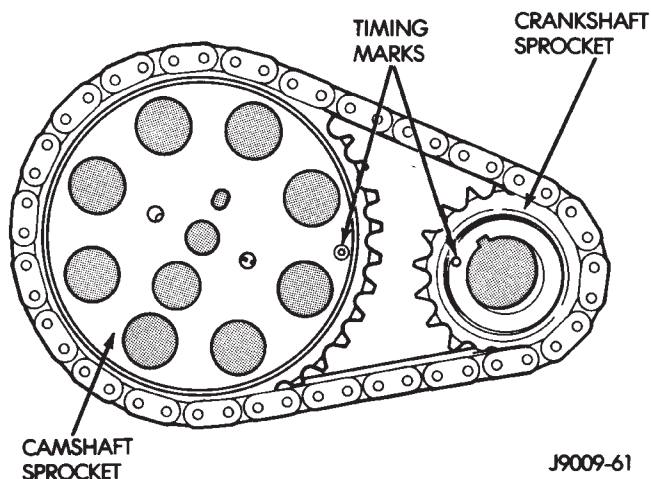
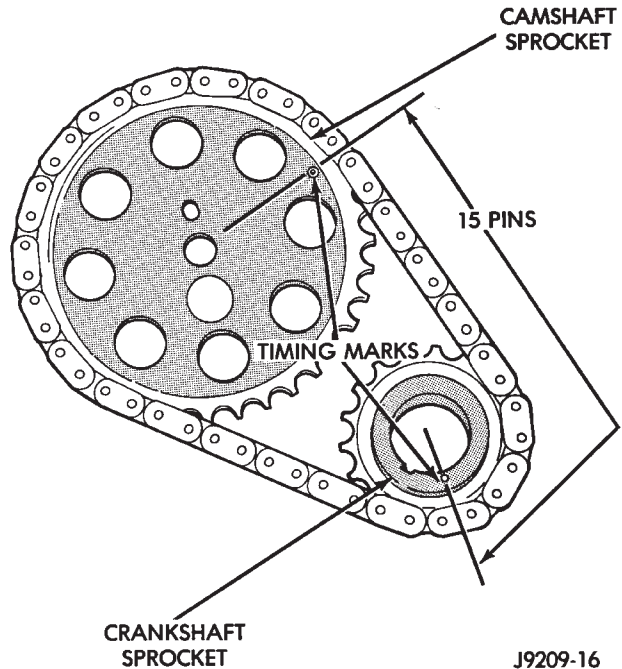

Fig. 6 Crankshaft/Camshaft Alignment
Fig. 8 Verify Sprocket/Chain Installation
(1) Disconnect negative cable from battery.
(2) Remove the fan and shroud.
(3) Remove the serpentine drive belt.
(4) Remove the crankshaft vibration damper.
(5) Remove the timing case cover.
(6) Rotate crankshaft until the "0" timing mark is closest to and on the center line with camshaft sprocket timing mark (Fig. 6).
Assemble the timing chain, crankshaft sprocket and camshaft sprocket with the timing marks aligned (Fig. 6).
(3) To verify correct installation of the timing chain, turn the crankshaft to position the camshaft sprocket timing mark as shown in Fig. 8. Count the number of chain pins between the timing marks of both sprockets. There must be 15 pins.
(4) Install the crankshaft oil slinger.
(5) Replace the oil seal in the timing case cover.
(6) Lubricate the tension spring, thrust pin and pin bore in the preload bolt with Mopar Engine Oil Supplement, or equivalent. Install the spring and thrust pin in the preload bolt head (Fig. 6).
(7) Install the timing case cover and gasket.
(8) With the key in the keyway on the crankshaft, install the vibration damper, washer and bolt. Lubricate and tighten the bolt to 108 N•m (80 ft. lbs.) torque.
(9) Install the serpentine drive belt and tighten to the specified tension (refer to Group 7, Cooling System for the proper procedure).
(10) Install the fan and hub (or Tempatrol fan) assembly. Install the shroud.
(11) Connect negative cable to battery.